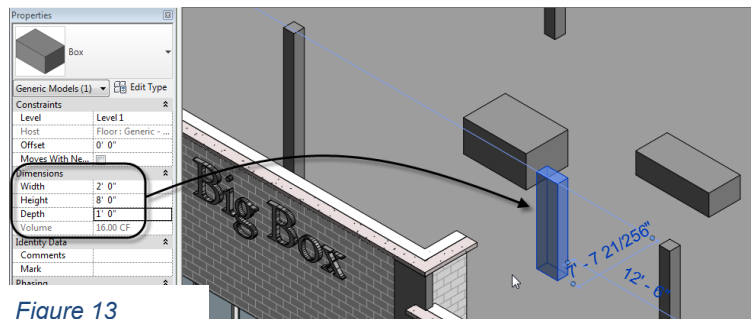

Figure 13
3. On the Properties palette, edit the: Width, Depth and Height (see Figure 13).